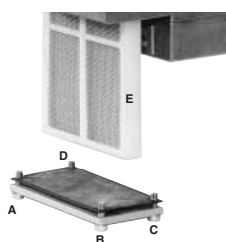

Fig. 34
- 2 Remove screws 1 ÷ 6 (Fig. 34).